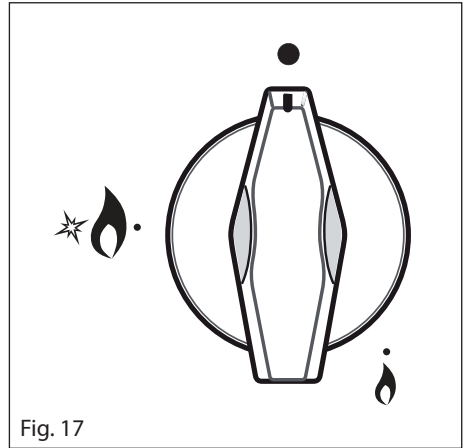

Fig. 17
Gas flow to the burners is adjusted by turning the knobs (illustrated in fig. 17) which control the safety valves.
1. Press in the corresponding knob and turn counter-clockwise (fig. 18) to the full flame position marked by the "☼" symbol (fig. 17); hold the knob in until the flame has been lit.